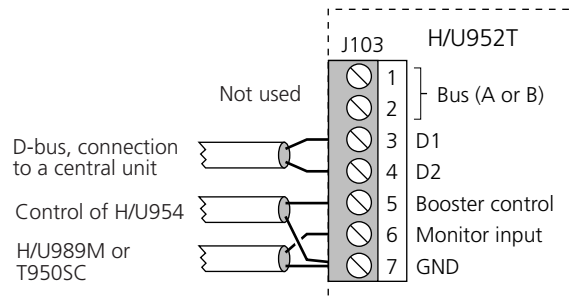

Figure 9. Connection via twisted-pairs.
- Connect control of power amplifier H/U954\* to J103 screw 5 and 7, **and** monitor receiver H/U989M\* or output power supervisor T950SC\* to screw 6 and 7, see figure 9 above.